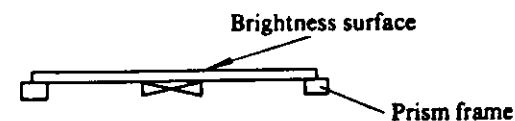

Fig. 19
- 2) Set the FRESNEL LENS on the PRISM FRAME (No. 1) as shown in Fig. 19.